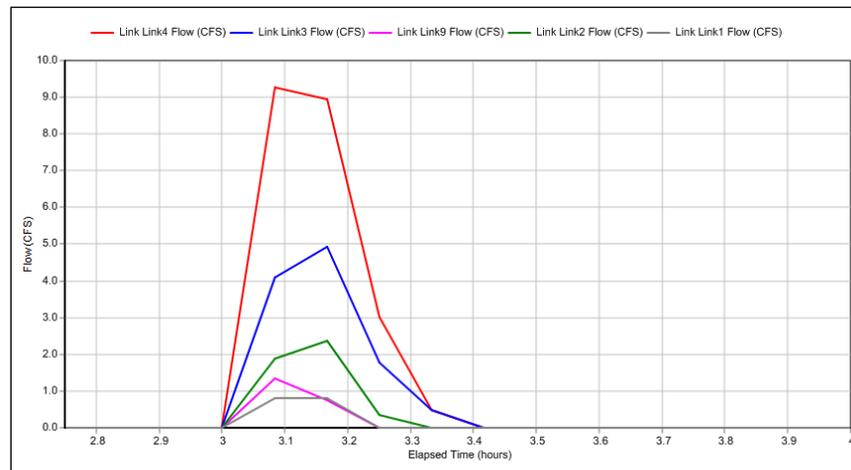

Figure 13 Plot of Flow vs. Time for several links in the model
8. On the *Axes* tab, select *Bottom Axis* and enter “0.5” as the *Minimum*, “5.0” as the *Maximum*, and “0.25” as the *Increment* and click **OK** to close the *Graph Options* dialog and return to the plot (Figure 13).